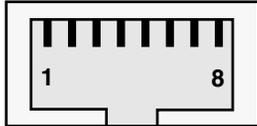

FIGURE 2 Serial Port Pin Locations
- FIGURE 2 shows the serial port pin locations.